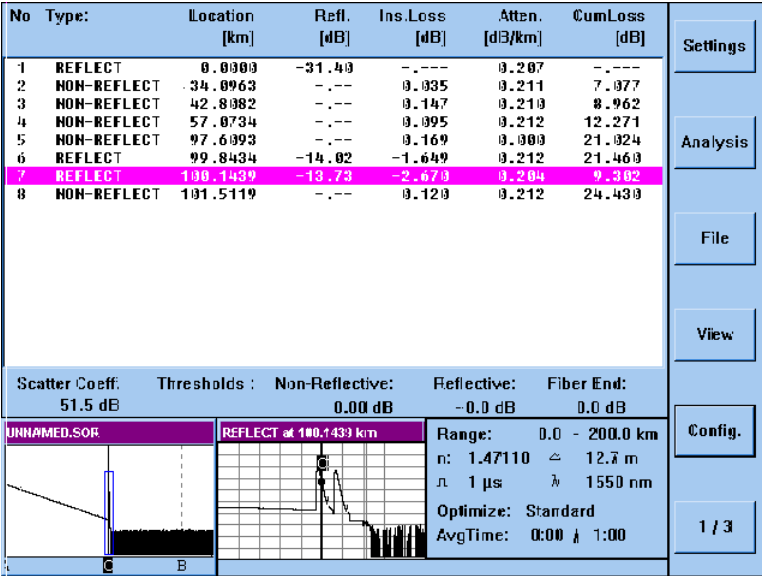

Figure 3-8 Two-Way Measurement: Event Table
- The two-way measurement generates a two-way measurement Event Table to show a comparison between the Events on the two traces (Figure 3-8).